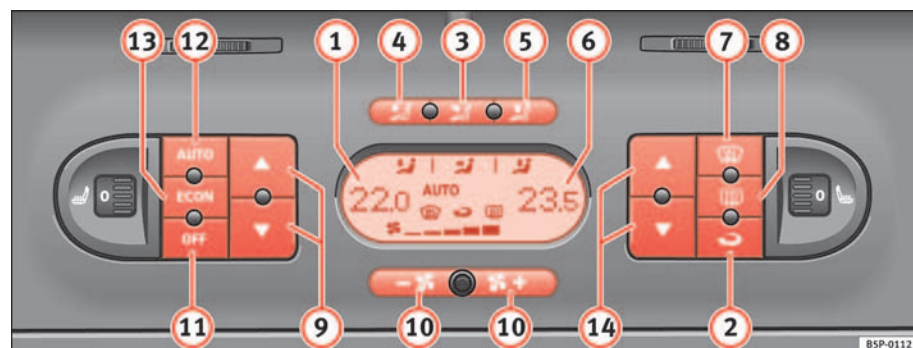

Fig. 126 On the dash panel: 2C Climatronic controls
- Press the temperature control buttons ⇒ **page 154, fig. 126 9** or **14** in order to adjust the temperature on the left hand side or the right hand side respectively.
- Press the button  ⇒ **page 154, fig. 126**. “AUTO” is shown on the display. ▶